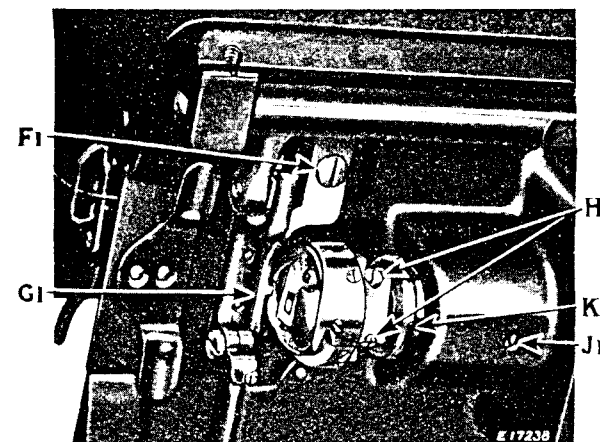
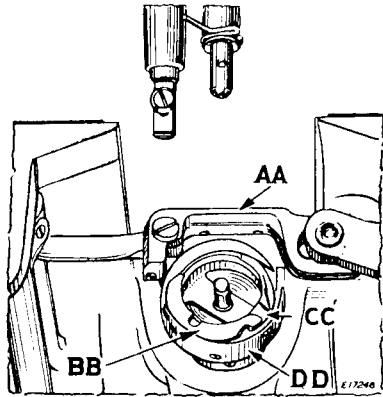
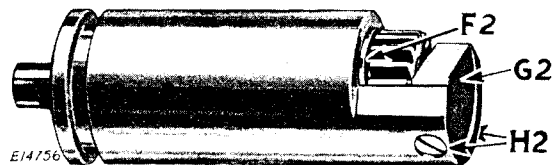

Fig. 25. Removing Sewing Hook
Fig. 26. Showing Correct Position of Thread Guard (DD) and Bobbin Case Holder (BB) for Removal of Sewing Hook
Fig. 27. Hook Shaft and Bushing
If the hook is not correctly timed, loosen the two screws in the hub of the hook (H1, Fig. 25). Turn the hook on its shaft to bring the point of the hook to the center of the needle while the timing mark on the needle bar is centered with the bottom of the bushing, then tighten the two hub screws.
To determine if the sewing hook is in the correct position sidewise in relation to the needle, turn down the bobbin case holder and ascertain if the hook passes the needle as closely as possible without actually touching it. The hook should be placed on the shaft as far as it will go. If it is necessary to move the hook sidewise, loosen the set screw (J1, Fig. 25) and move the bushing (K1, Fig. 25) with the hook assembly as required, tapping it to the right or prying it to the left with a screwdriver against the bed casting, then tighten the set screw (J1) and replace the bobbin case holder.
Remove the needle, slide plate and bobbin case. Take out the screw (F1, Fig. 25) and remove the bobbin case holder position bracket (G1). Loosen the two set screws (at H1) in the hub of the hook, then turn the balance wheel over from you until the feed bar (AA, Fig. 26) is raised to its highest point. Turn the sewing hook until the thread guard (DD) is at the bottom, as shown in Fig. 26, and turn the bobbin case holder (BB) until it is in the position shown in Fig. 26. The sewing hook can then be removed from the hook shaft.
When placing a new sewing hook on the shaft, have the thread guard (DD) of the hook at the bottom and the bobbin case holder (BB) turned to the position shown in Fig. 26, so that the hook will clear the feed bar (AA).
When the hook is in position on the shaft, turn the bobbin case holder (BB) until the notch (CC) is at the top, then replace the bobbin case holder position bracket, being careful to see that the position stud (G1, Fig. 25) enters the notch at the top of the bobbin case holder, as shown in Fig. 25, then securely fasten the position bracket by means of the screw (F1). Replace the needle and time the sewing hook as instructed on page 23. Replace the bobbin case and slide plate.
Fig. 26) down out of the way. Loosen the bushing set screw (J1, Fig. 25) and withdraw the bushing and hook shaft assembly as shown in Fig. 27. Take out the two screws (H2) and remove the oil feeder (G2), then withdraw the shaft and gear.
When assembling, see that the washer (F2, Fig. 27) has its small end toward the gear. The oil feeder (G2) can be moved endwise enough to control the end play of the hook shaft before tightening the screws (H2). When replacing this unit in the machine be sure that the set screw enters the spline in the bottom of the bushing. See page 28 when resetting the feed lifting rock shaft.